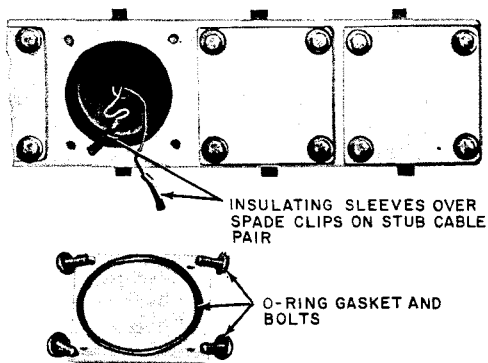

Fig. 18—Blank Cover Plate Removed from B Transducer Housing
- (1) Remove the blank cover plate from the B transducer housing to expose the stub cable pair inside the cavity (Fig. 18).